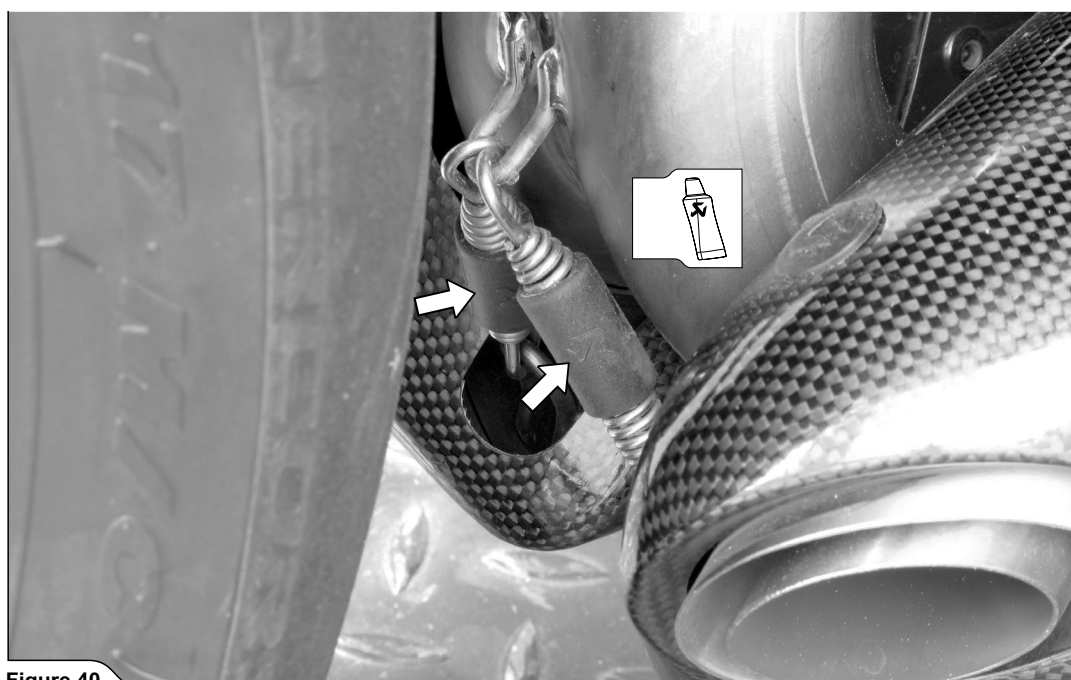

Figure 40
10. Slide the mufflers onto the outlets of the collector, hand tighten the mufflers' bracket bolts and attach the springs (Figure 40).